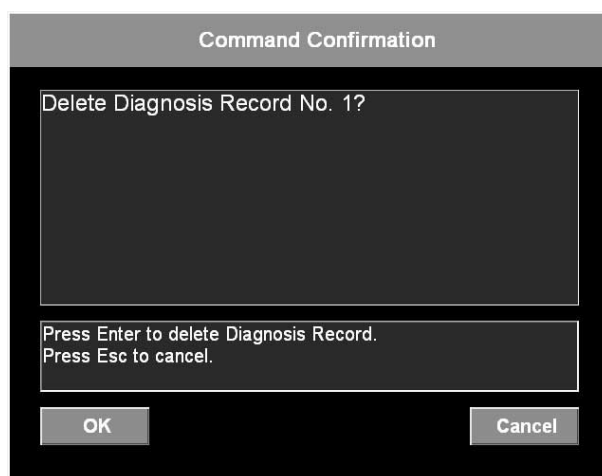

Fig. 47
3. Click the **OK** button or press the Enter key on your keyboard. (See fig. 47.) The selected item is deleted. To cancel deleting the item, click the **Cancel** button or press the Esc key on your keyboard.